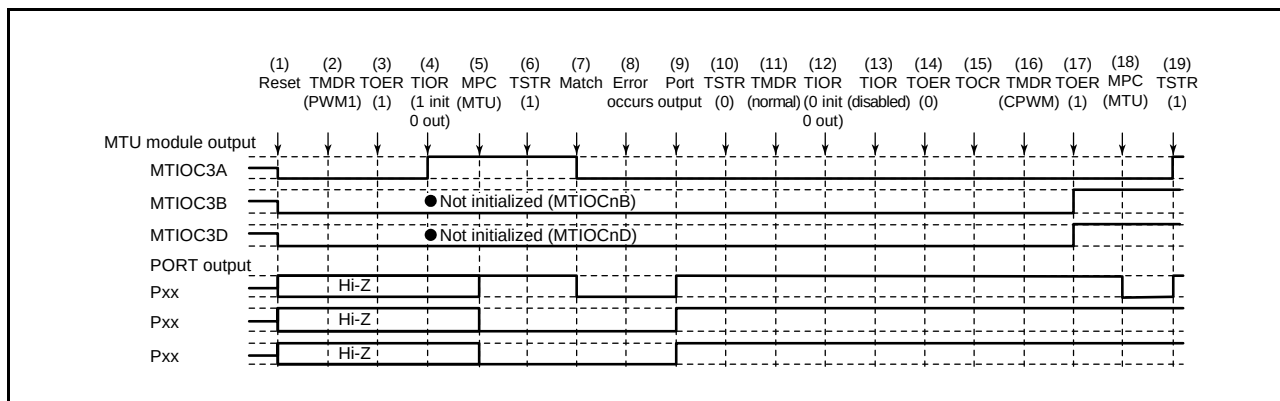

**Figure 19.153 Error Occurrence in PWM Mode 1, Recovery in Complementary PWM Mode**
Figure 19.153 shows a case in which an error occurs in PWM mode 1 and operation is restarted in complementary PWM mode after re-setting.
(1) to (14) are the same as in Figure 19.153.
(15) Select the reset-synchronized PWM output level and enable or disable cyclic output with registers TOCR1A and TOCR2A.
(16) Set reset-synchronized PWM mode.
(17) Enable output in MTU3 and MTU4 with the TOERA register.
(18) Set MTU output using the MPC and port mode registers (PMR) corresponding to the I/O ports.
(19) Restart operation by setting the TSTRA register.